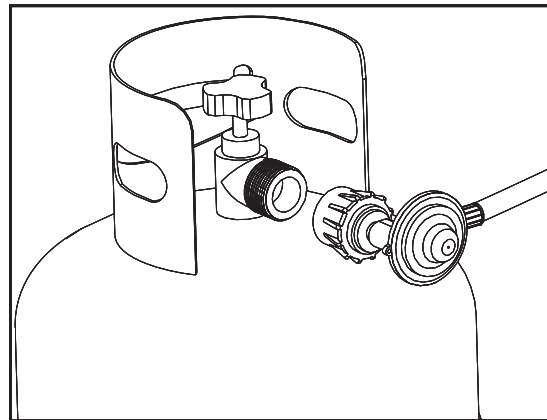

FIG. 1
4. Insert the gas cylinder valve into the threaded opening of the regulator valve. Turn the cylinder clockwise until firm. Hand-tighten only. **Fig 1.**